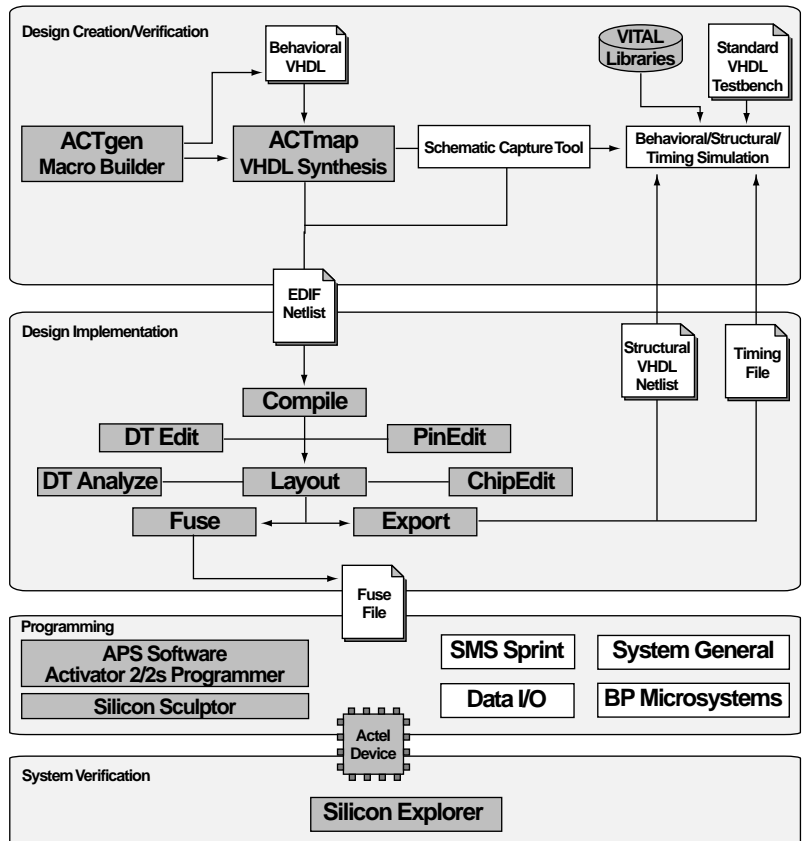

Figure 1-1. ACTmap Design Flow
Figure 1-1 illustrates the design flow for creating an Actel device using the Designer Series, ACTmap, and 3rd party CAE software¹.
1. Actel-specific utilities/tools are denoted by the grey boxes in Figure 1-1.